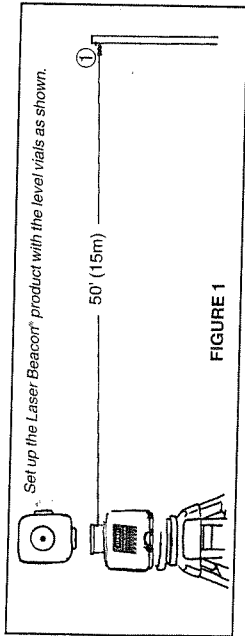

FIGURE 1
3. Level the Laser Beacon® product with the two brass leveling screws and mark the center of the beam at 50' (15 meters) either visually or using the Rod Eye®-5 receiver. (See Figure 1)